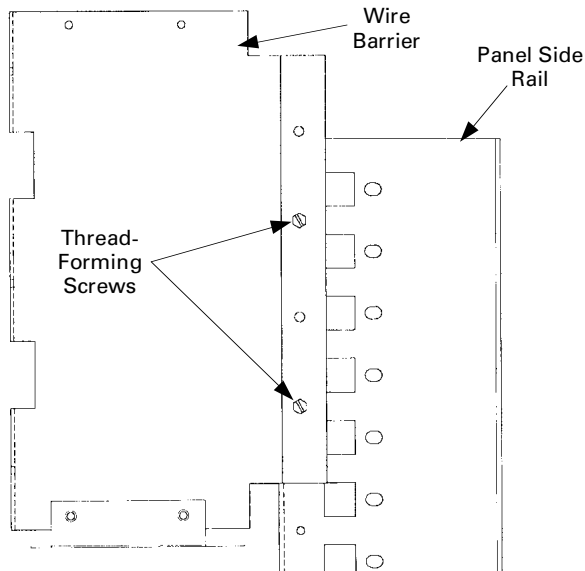

Figure 5. Wire barrier installation.
5. Install the wire barriers. Position the wire barriers so that the second and fourth holes from the top of the wire barrier align with the first and fourth holes of the panel side rails or Z rails, as shown in Figure 5. Secure the wire barriers to the panel side rails or Z rails using the thread-forming screws supplied.